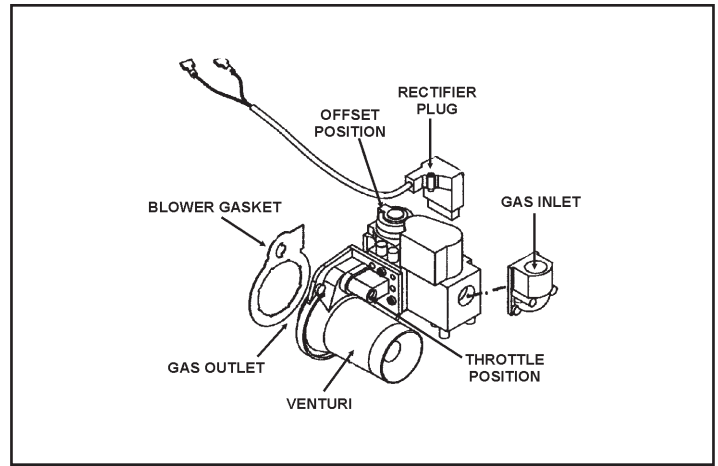

FIGURE 14a. (A)JWSH100199 & (A)JWSH100250 Models Only
1. When connecting gas pipe to unit, apply wrench to flange only. Note: Do not use wrench on gas valve or gas bracket. See Figure 14a & b.